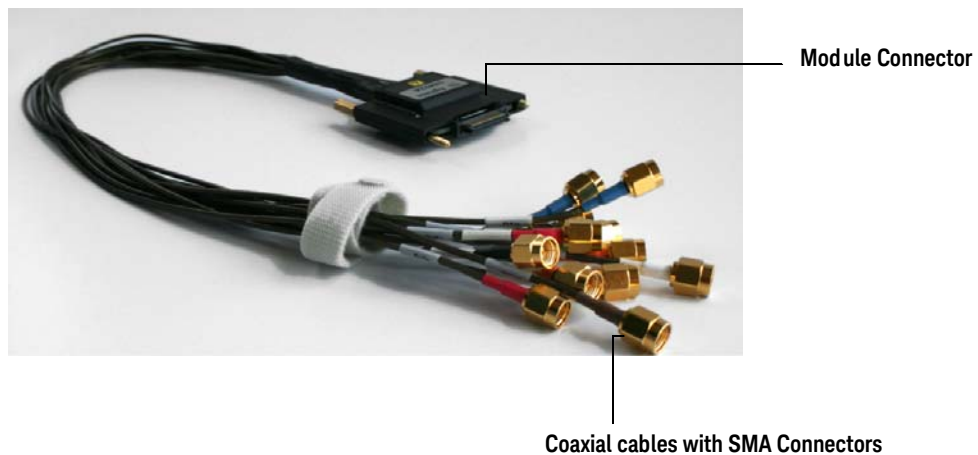

Figure 2 U4422A SMA Stimulus Probe
- 1 Plug the module connector (refer Figure 2) of the stimulus probe to the Exerciser port on the front panel of the U4421A module.